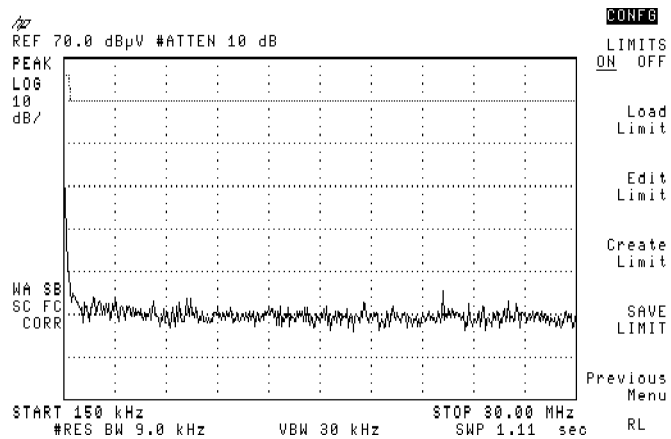

Figure 3-28. Loaded Limit Line
10. Press **LOAD FILE**. See Figure 3-28.